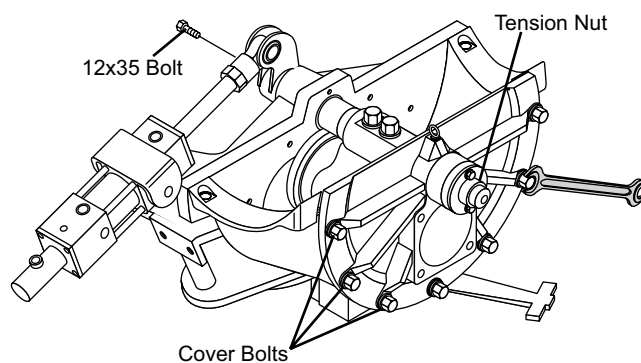

Figure 10
3. Loosen the eight cover bolts a couple of threads, but do not remove the bolts (Figure 10).